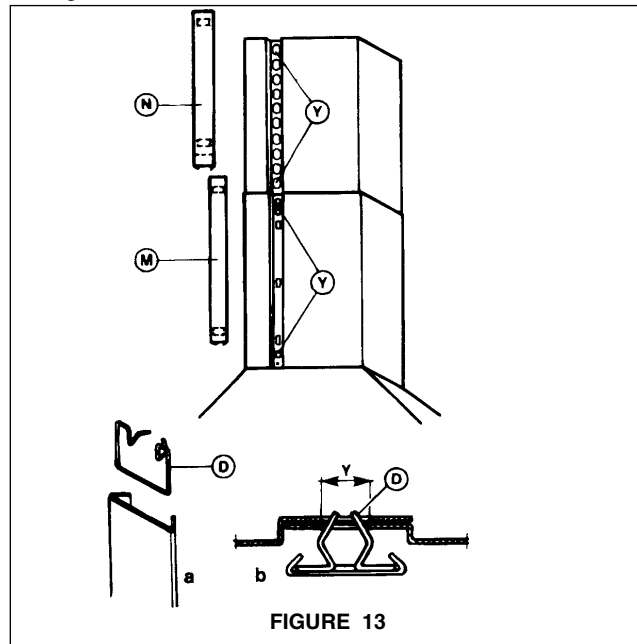

**FIGURE 11**
**8.** Attach the chimney cover to the support. The chimney cover is supplied in two sections with each section having two pieces. The upper section of the chimney cover (**S**) must be installed first, then the lower section (**I**). **FIGURES 11 and 12** illustrate the attachment of the chimney cover. The lower section fits over the upper section. Once the covers are in the final position, screws are used to secure the top and bottom of each cover to the support.